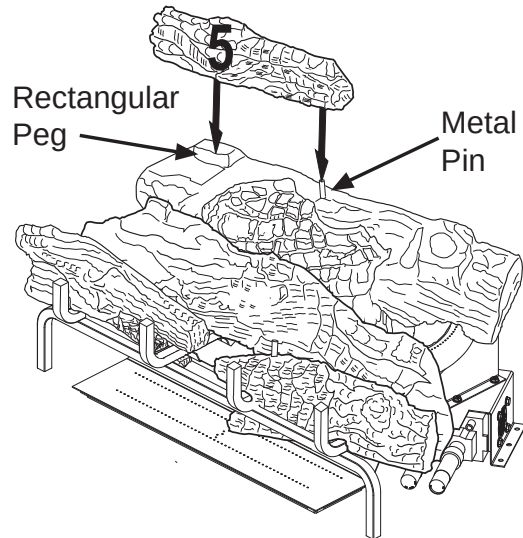

Figure 25 - Installing Log # 5
5. Place the left back top log (#5) on top of the rear log (#1). Match the rectangular peg on top of the left side of the rear log (#1) with the rectangular hole on the bottom of the left back top log (#5). Match the metal pin on the top of the rear log (#1) with the round hole in the bottom of the left back top log (#5). See **Figure 25**.